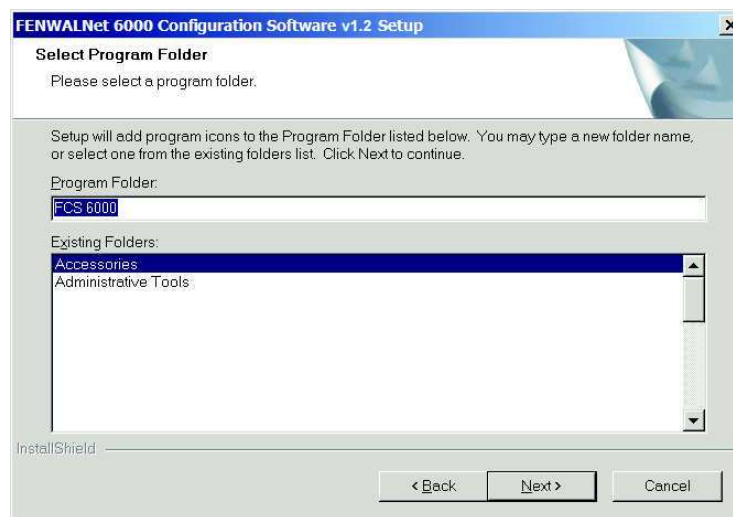

Figure 1-4. Select Program Folder Screen
5. Select Program Folder (Figure 1-4). The system automatically defaults to create a new folder for FCS 6000. To choose another folder, scroll down the list and double-click on the folder in which FCS 6000 should be placed, or type in a new folder name.